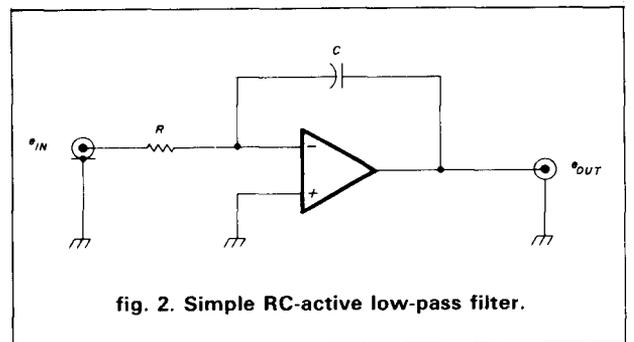

fig. 2. Simple RC-active low-pass filter.
**Figure 2** illustrates a simple RC active first order